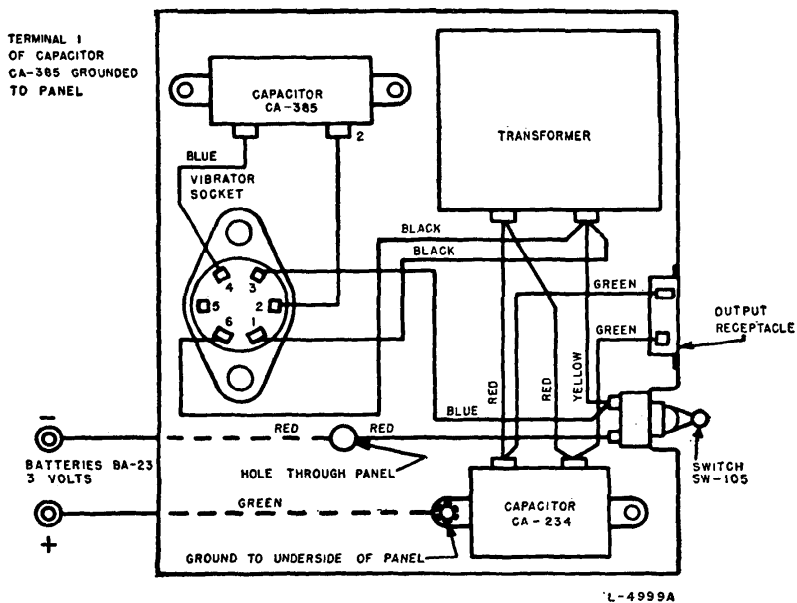

Figure 15. Converter M-222—wiring diagram.
- (2) Wiring diagram. (See fig. 15.)
b. OTHER PARTS. Parts other than the vibrator will rarely have to be replaced. Should any other parts have to be replaced, make all wiring connections to the new parts clean and secure. Check the wiring with the wiring diagram. (See fig. 15.) After changing any part, be sure the box, chassis, and wired parts are thoroughly cleaned and free from superfluous particles of solder.